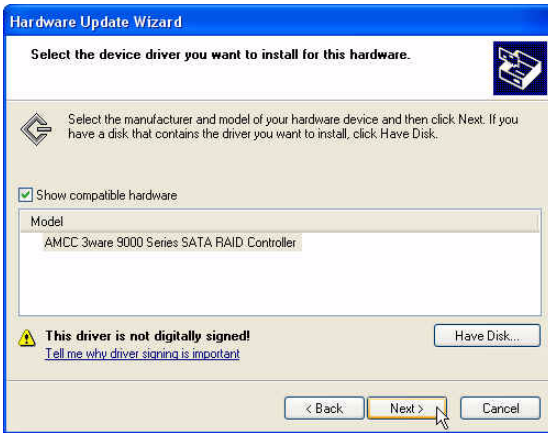

Figure 19. Install Hardware Device Drivers
- When the Install Hardware Device Drivers screen appears (Figure 19), click **Next** and follow the prompts on the screen to install the second driver.